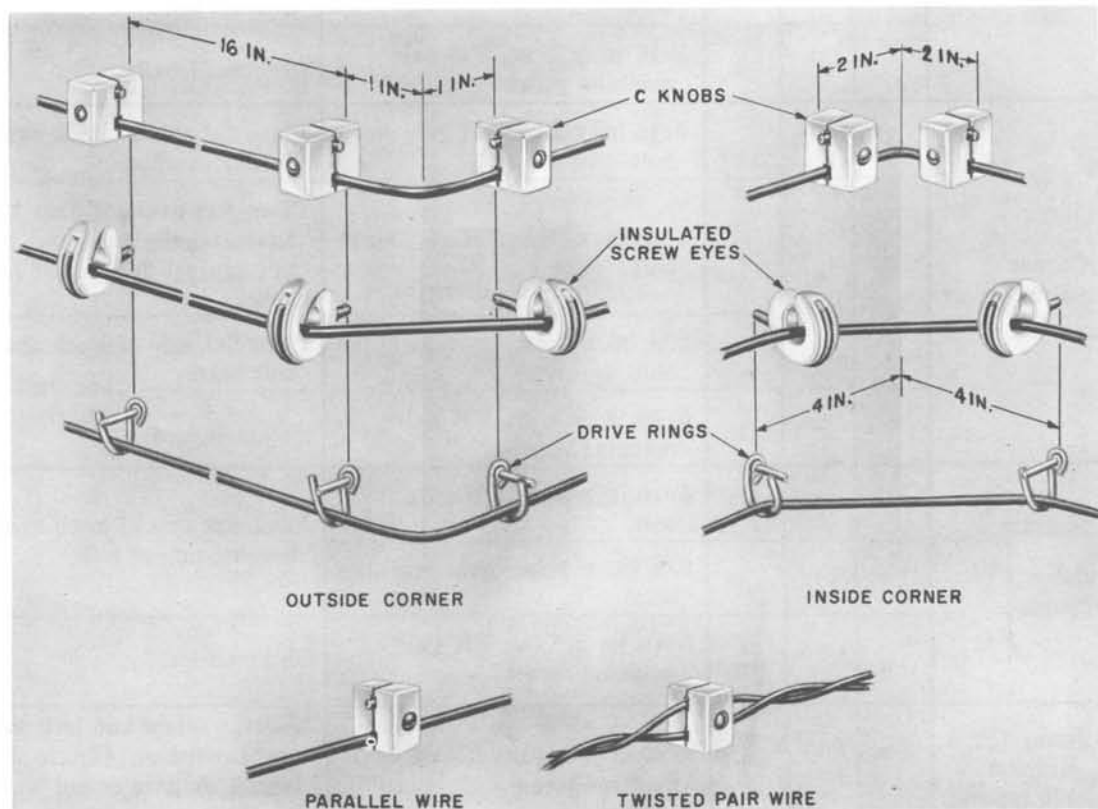

Fig. 17 — Fastening Drop and Block Wire Inside of Buildings
5.00 DROP AND BLOCK WIRE ATTACHMENTS FOR INSIDE OF BUILDINGS (Fig. 17)